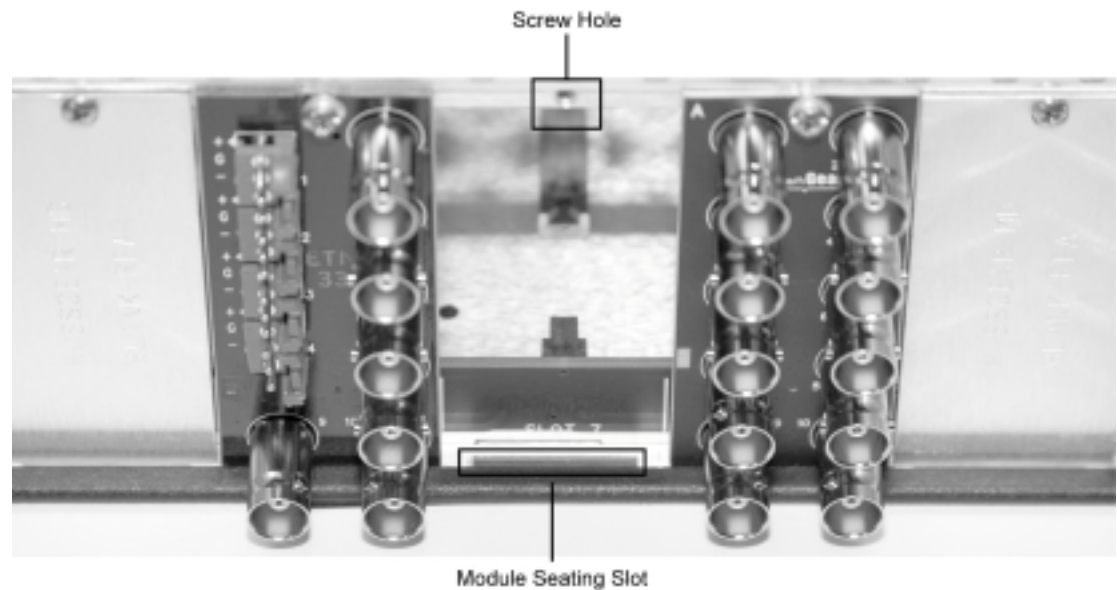

Figure 2. Rear Module Installation
3. As shown in Figure 2, seat the bottom of the 8310-RM-A in the seating slot at the base of the frame's back plane.